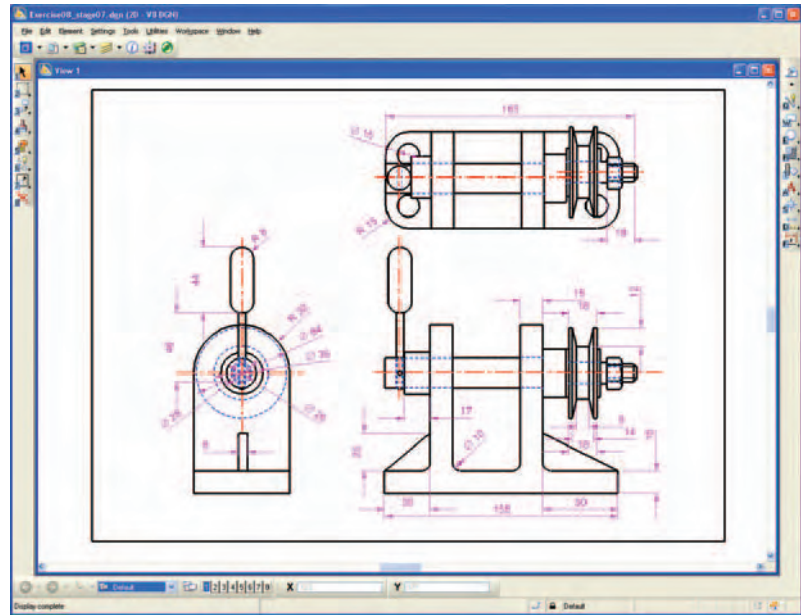

Fig. 10.21 Example – a drawing in MicroStation V8
1. Figure 10.21 shows an example of an orthographic drawing constructed in MicroStation V8.